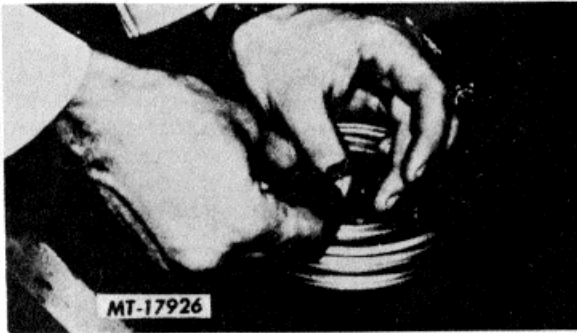

Fig. 7 Installing Check Valve
4. Install new ball check valve and replace the retaining clip and screw (Fig. 7)
2. Install the previously rebuilt desiccant sealing plate on the cartridge bolt so that the ball check retaining clip remains visible (see Fig. 7).